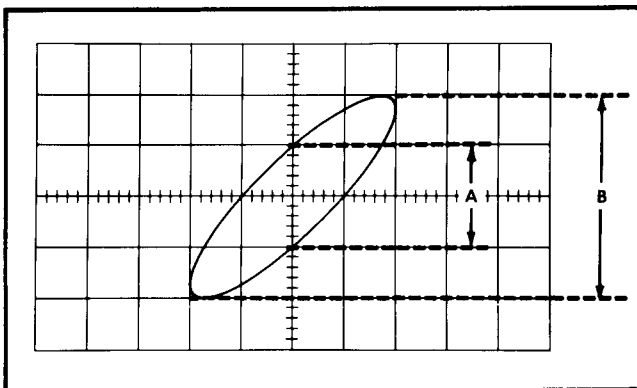

Fig. 2-25. Phase-difference measurement from an X-Y display.
3. Position the display to the center of the screen and adjust the VOLTS/DIV switches to produce about 4 divisions in each direction. The CH 1 VOLTS/DIV switch controls the horizontal deflection (X) and the CH 2 VOLTS/DIV switch controls the vertical deflection (Y).
4. Center the display in relation to the vertical graticule line. Measure the distances A and B as shown in Fig. 2-25. Distance A is the vertical measurement between the two points where the trace crosses the vertical centerline. Distance B is the maximum vertical height of the display.
Example. Assume an inherent phase difference of 2° with a display as shown in Fig. 2-25 where A is 2 divisions and B is 4 divisions.